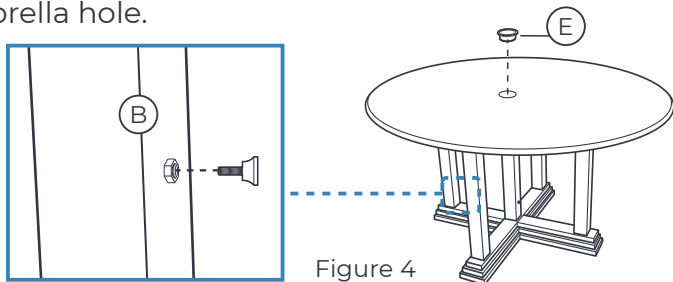

Figure 4
See Figure 4. Use the umbrella screw to tighten the umbrella if necessary. If the table is used without an umbrella, use the umbrella cap (E) to cover the umbrella hole.